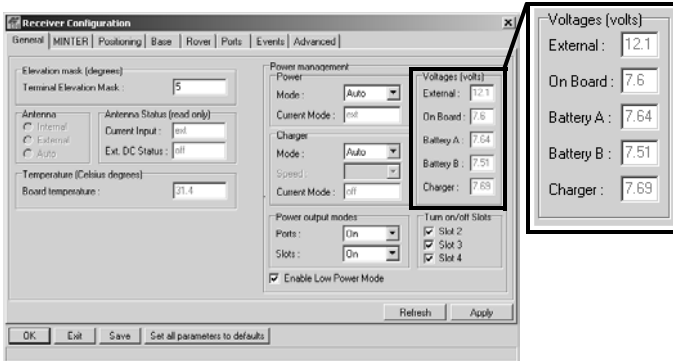

Figure 2-7. View Voltages Information
7. View the *Voltages* information (Figure 2-7 on page 2-9).